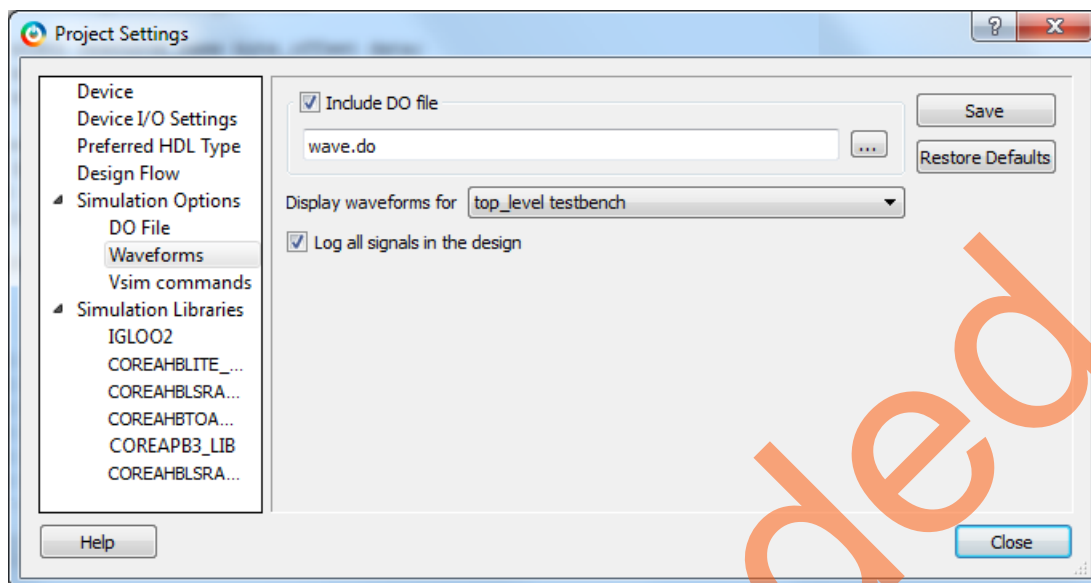

Figure 40 • Project Setting – Waveform
6. Select **Waveforms** under **Simulation Options** as shown in Figure 40.